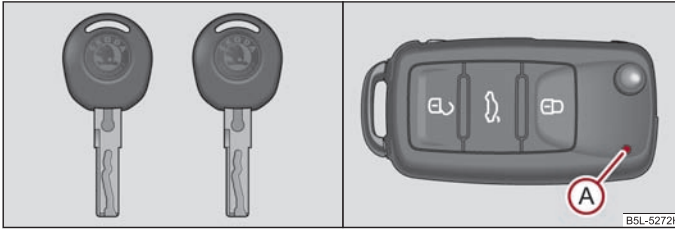
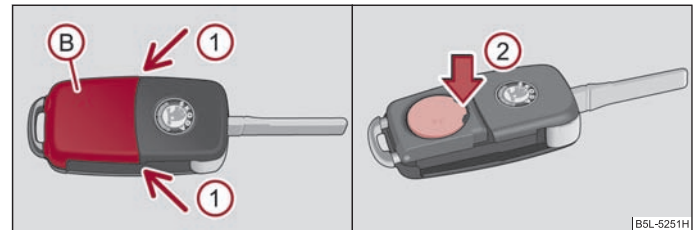

Fig. 22 Set of keys without remote control/Keys with remote control key
Fig. 23 Remote control key - remove cover/remove battery
Two keys are provided with the vehicle. Depending on the equipment, your vehicle can be equipped with keys without radio remote control ⇒ fig. 22 - left, or with radio remote control ⇒ fig. 22 - right.
Each remote control key contains a battery which is housed under the cover (B) ⇒ fig. 23. If the battery is discharged, the red warning light (A) does not flash after you press a button on the remote control key ⇒ fig. 22. We recommend that you have the batteries of the key replaced by an authorised Škoda Service Partner. You should, however, proceed as follows if you wish to replace the discharged battery yourself:
- Press off the battery cover with your thumb or using a flat screwdriver at the points of the arrows (1) from ⇒ fig. 23.
- Remove the discharged battery from the key by pressing the battery downwards at the point of the arrow (2) ⇒ fig. 23.